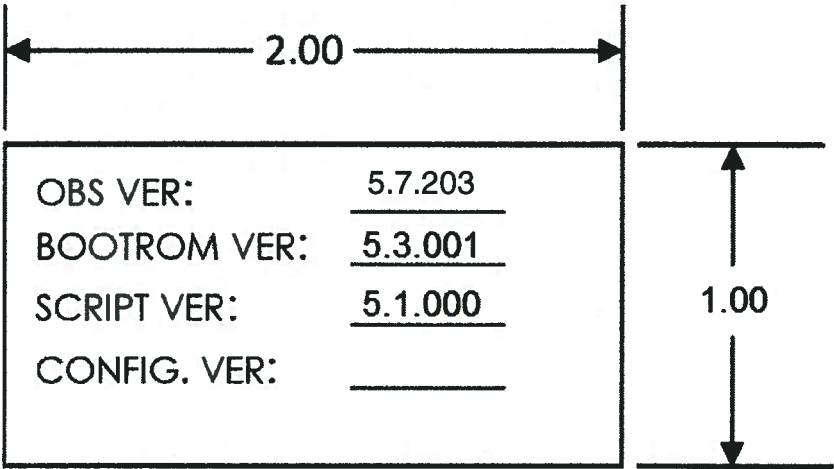

FIGURE 1. LABEL, P/N 1209-3196-PF
- d. Dimensions: Per Figure 1
1. Fill in the required data on Label (1209-3196-PF) as shown in Figure 1 and install 412EPI HUMS Processor Label per Paragraph 3.1.7 of 10123-0002-GP installation instructions.